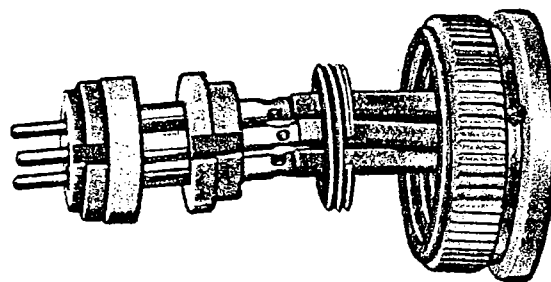

Figure 20
c. Install contacts with wires attached in proper holes of rear insert. Smallest outside diameter of rear insert must face toward wires. (Figure 20.) As each contact is installed, it must be rotated 90 degrees to lock it in the insert and properly align the flats so the sealing insert and front insert can be installed.
d. Align contact holes of sealing insert with contacts. Carefully work sealing insert down over contacts and position approximately  $\frac{1}{16}$  of an inch from the front of the contacts. (Figure 20.) This will aid in holding the contacts in alignment while assembling the front insert.